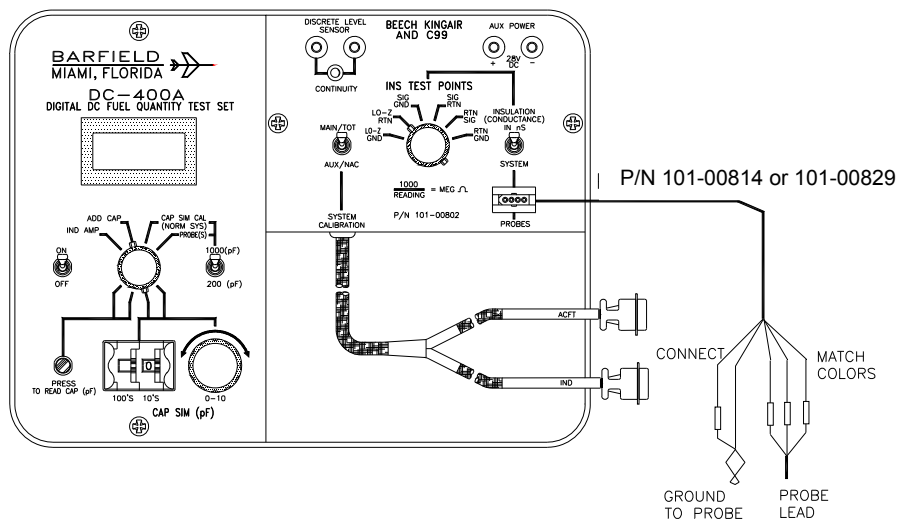

Figure 7 Bench Probe Interface
- (1) Refer to Figure 7 and connect the test set to the probe as shown.
- (2) Connect the probe adapter, P/N 101-00829 or P/N 101-00814, to the test set PROBES receptacle as shown in the figure.
- (3) Determine the part number and physical makeup of the probe-under-test.
- (4) Connect the color-coded wires (sockets) from the probe adapter to the matching color of the probe lead wires (pins).
- (5) Connect the socket pin ground lead of the probe adapter (small black lead) to the ground clip pigtail of the probe adapter. Attach the ground clip to the grounding area on the probe.